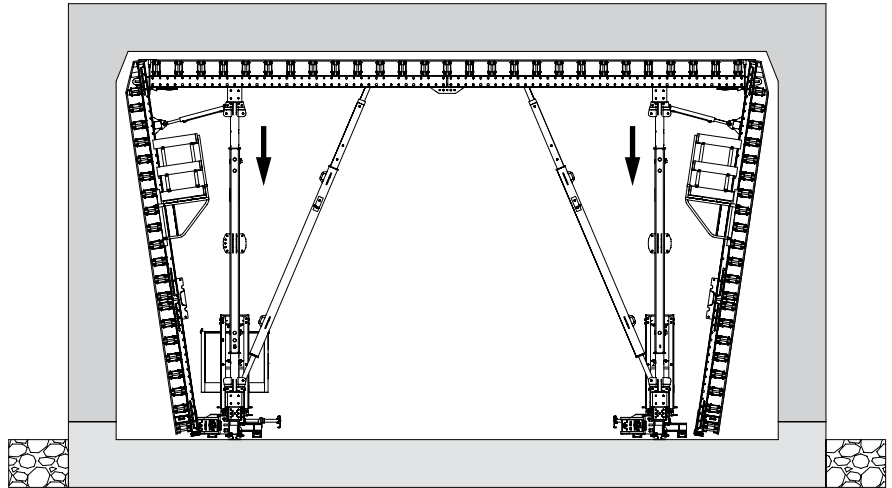

Fig. D2.04
2. Lower the Tunnel Formwork Carriage onto the Rails. (Fig. D2.04)